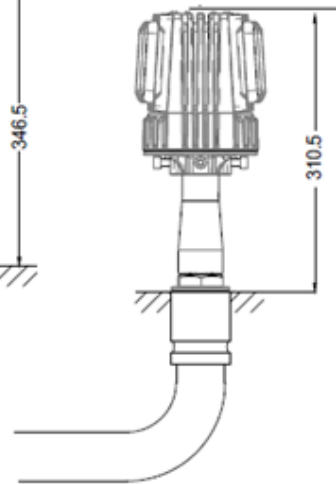

Figure 3-3
- Mounted on embedded pipe (Figure 3-3).